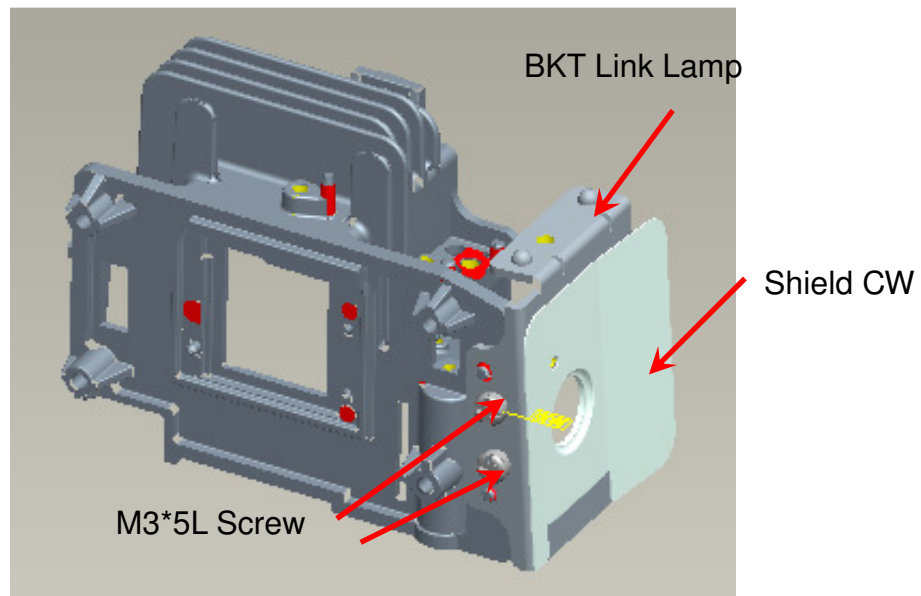

Fig. 6-1
6.1 Assemble "BKT Link Lamp & CW shield" on "DMD HSG" and then lock with screws well (Fig. 6-1).